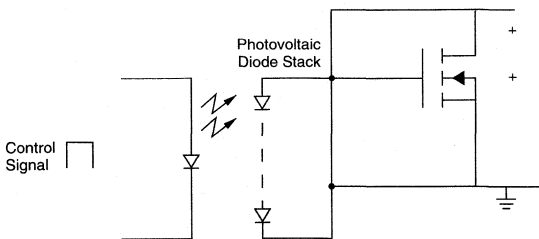

Figure 5: Photovoltaic Drive Scheme
- Solid-state relays utilize optically-isolated drive schemes for isolation purposes. Figure 5 shows a commonly-used photovoltaic drive scheme. Usually a low voltage is available to turn on the FET to meet the relay's assured $R_{DS(ON)}$ specifications. Precautions are taken to avoid excessive drive since the charge applied during turn-on must be quickly discharged during turn-off. Turn-off circuitry is not shown in this simplified schematic.